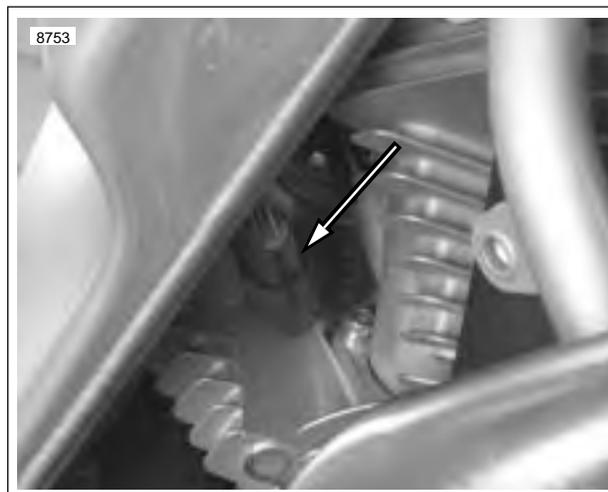

Figure 4-47. Throttle Position Sensor Location
2. See Figure 4-47. Disconnect throttle position sensor connector [88].
- See Figure 4-47. For the XB12R, the throttle position sensor is located on the opposite side of the throttle body assembly as on the XB9R.